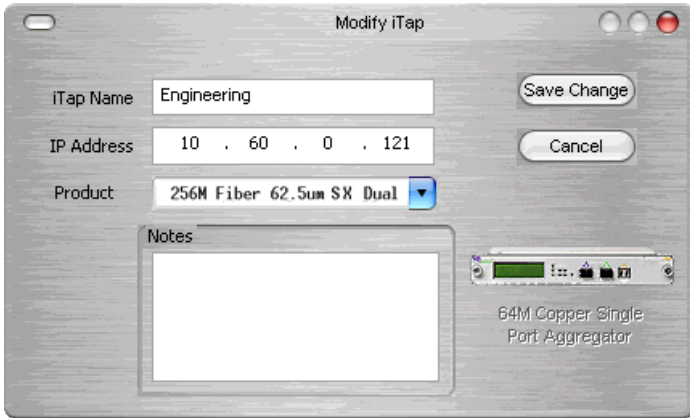

Figure 33: Modify iTap
2. Click **Modify** in the toolbar. The Modify iTap dialog box appears as shown in Figure 33.